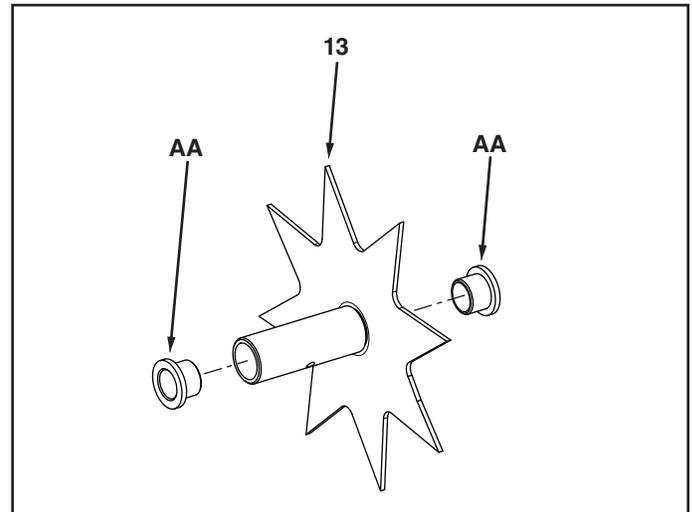

FIGURE 2
3. Press a flanged bearing (AA) into each end of both drive disks (13). See figure 2.